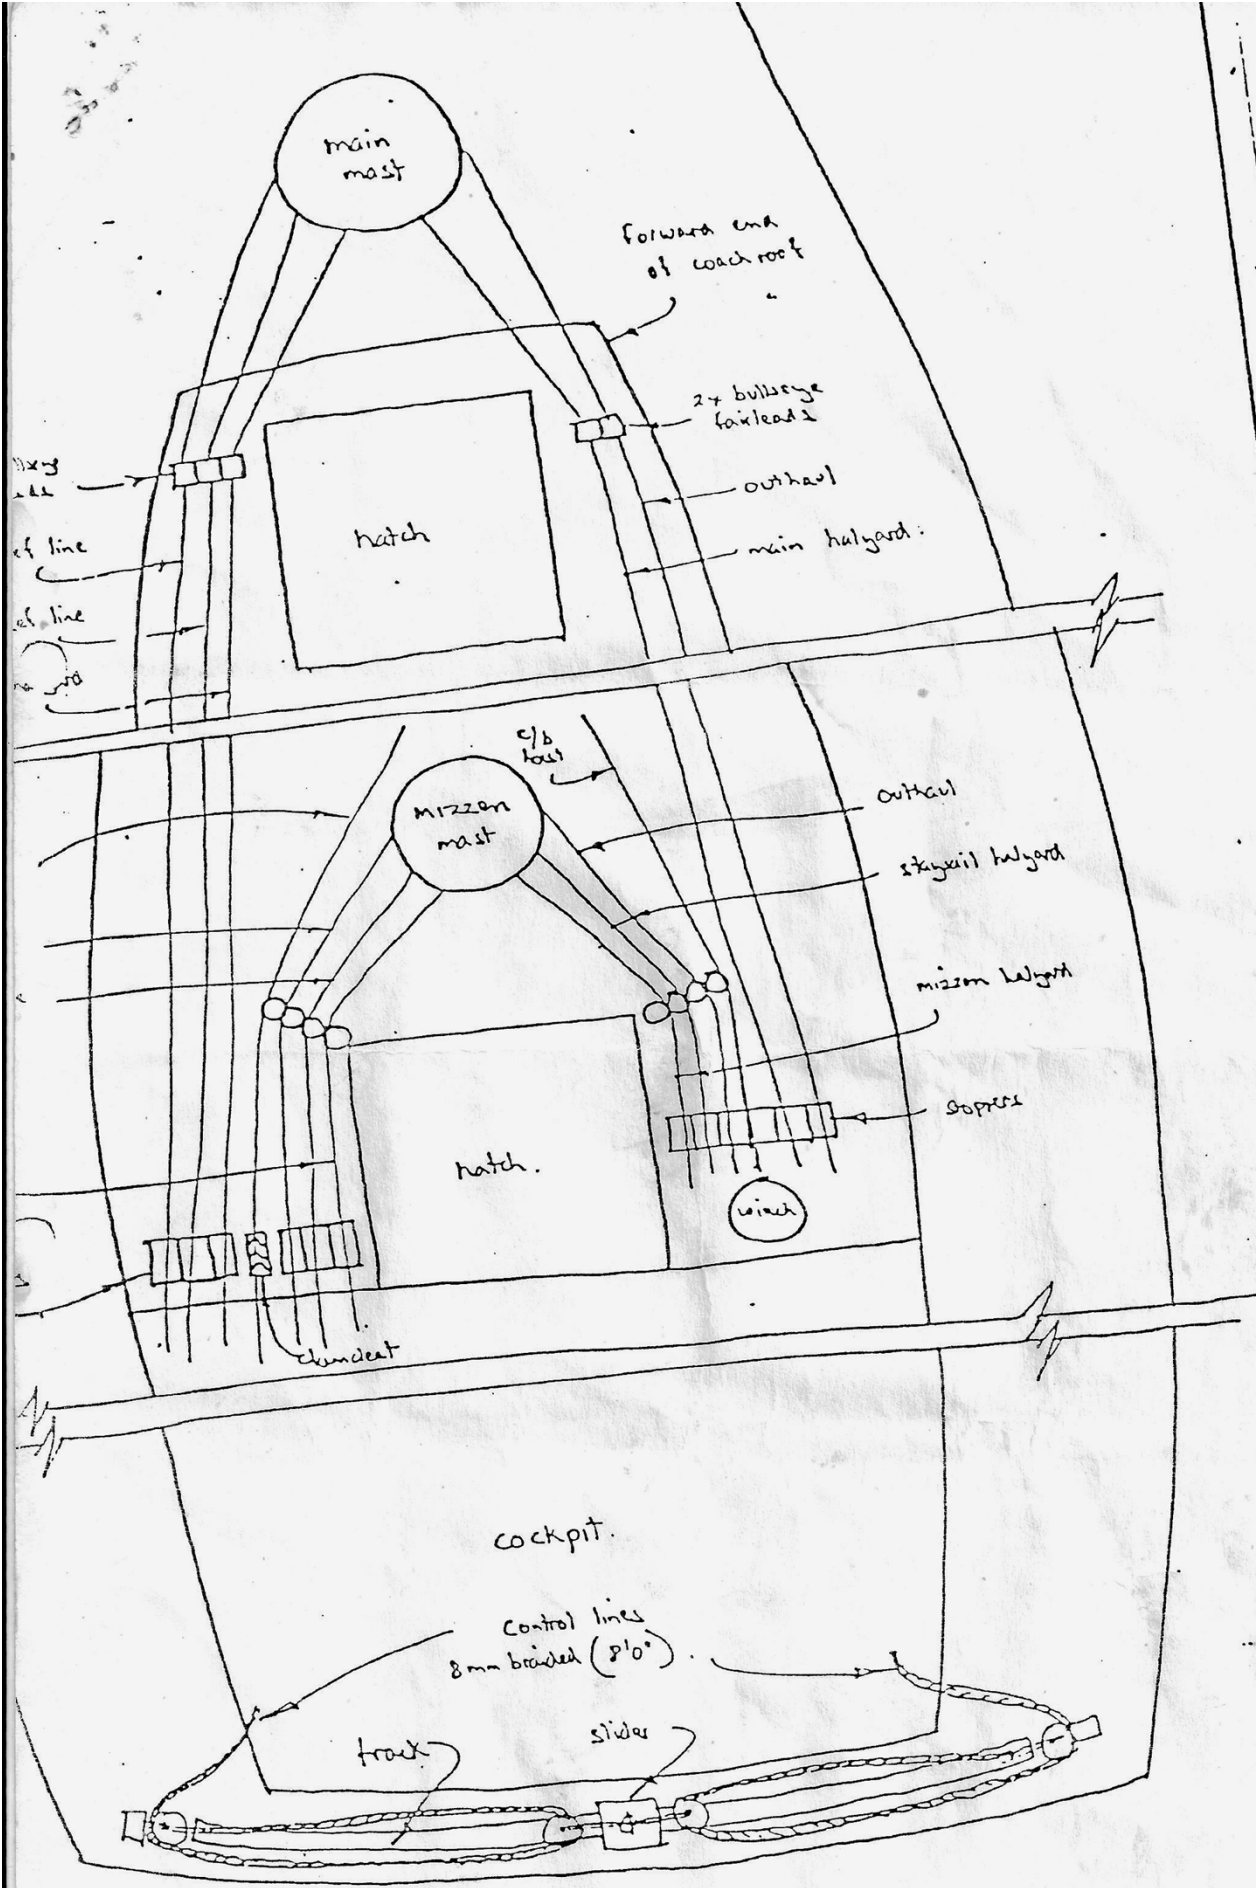

FIG. 4.
13. Run mast and boom tackles, lines, halyards etc. through mast collar blocks and deck leads to stoppers on deck. (see Fig 4).